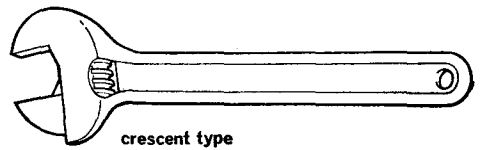

Fig. 10 Adjustable spanner
12. **Adjustable spanners.** These should only be used when a fixed spanner of the correct size is not available. They are classified by overall length (Fig. 10).